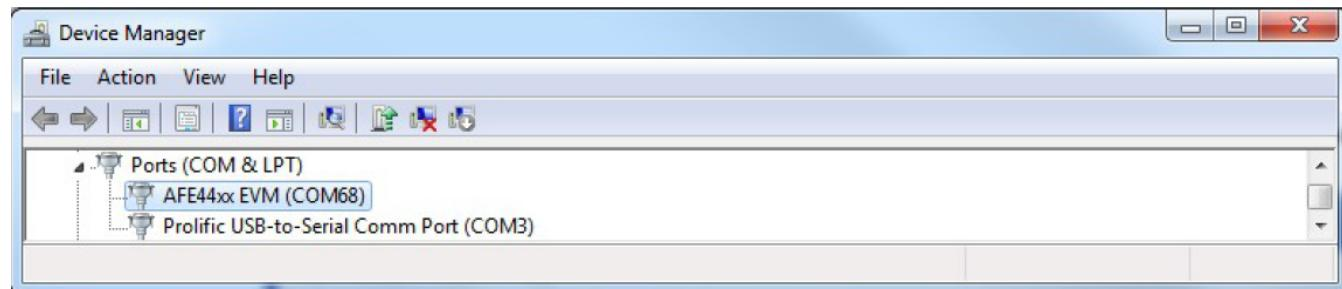

Figure 20. Device Manager Screen
7. The AFE4404 EVM is now recognized as Virtual COM Port under the Device Manager as shown in Figure 20.